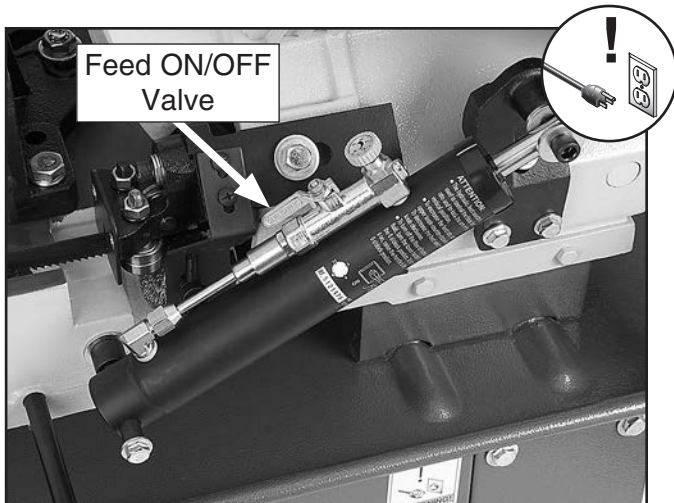

Figure 55. Location of feed ON/OFF valve.
2. Raise bow to maximum height, then close feed ON/OFF valve to lock bow in place (see **Figure 55**).